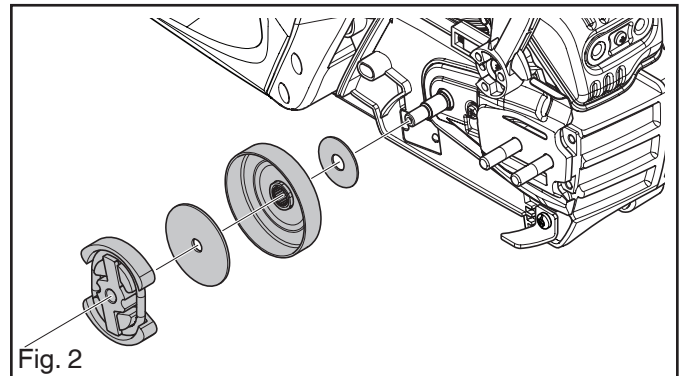

Fig. 2
6. Remove the clutch, washer, the clutch drum, washer and bearing. See Figure 2.